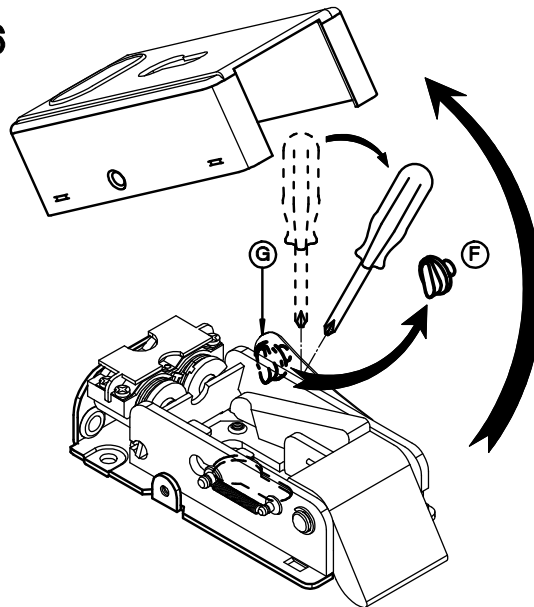

Fig.4
**GB** TO ADJUST THE BACKSET OF THE LOCK (ONLY FOR LOCK V9083 WITH ROUND CYLINDER - SEE FIGURE 4)
**D** EINTRITT REGELUNG (NUR FÜR ELEKTROSCHLOSS V9083 MIT RUNDZYLINDER - SEHEN SIE FIGURE 4)
**F** POUR REGLER LA DISTANCE D'ENTREE (SEULEMENT POUR SERRURE V9083 AVEC CYLINDRE ROND - VOIR FIGURE 4)
**(GB) HOW TO CHANGE OPENING FUNCTION (ONLY FOR LOCKS V06 AND V9083 - SEE FIGURE 4)**
**(D) ÖFFNUNG ÄNDERUNG (NUR FÜR ELEKTROSCHLÖSSER V06 ET V9083 - SEHEN SIE FIGURE 4)**
**(F) MODIFIER LA FONCTION D'OUVERTURE (SEULEMENT POUR LES SERRURES V06 ET V9083 - VOIR FIGURE 4)**